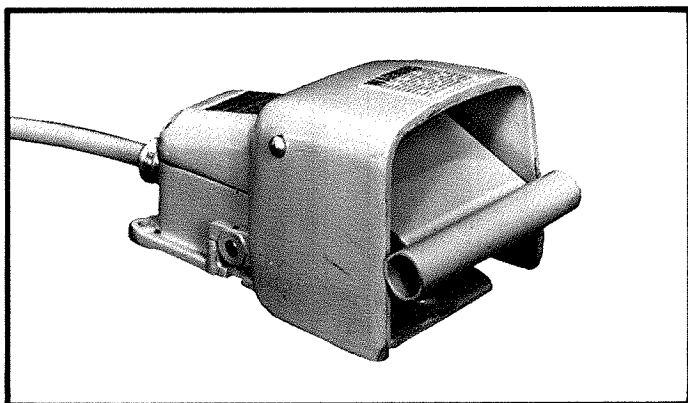

FIGURE 55
4. **FOOTSWITCH (FIGURE 55):** This optional operator station is a guarded, two position switch. It can be used instead of the palm button operator controls, but not in combination with them. Depressing the footswitch causes the ram to